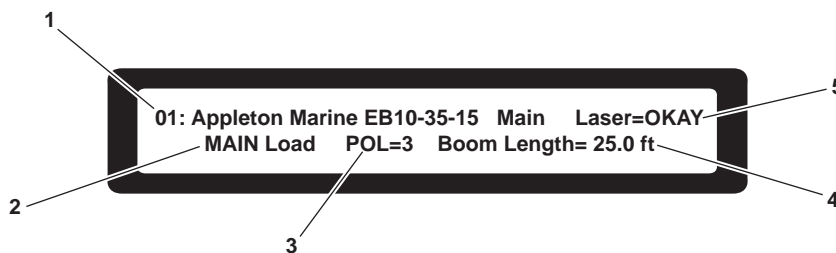

Figure 30. Load Chart in Use Screen
- 2. Access the load chart in use display screen (figure 30) by pressing the down arrow button (figure 17, item 4) on the LMI receiver panel (figure 17, item 2) once while in the primary operating screen (figure 25).
- 3. The load chart in use display screen (figure 30) will display the information contained in table 2.
Table 2. Load Chart In Use (refer to figure 30)